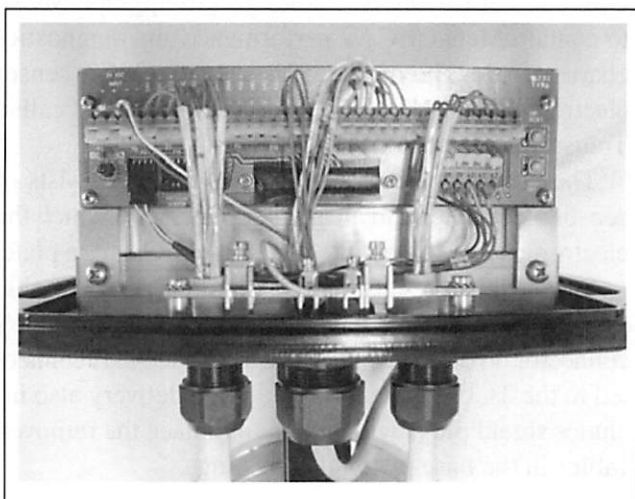

Fig. 4.
- Remove the cable connections from the Field Connection Board. Pull the cables out through the inlet bushings and remove the cables (Figure 4).